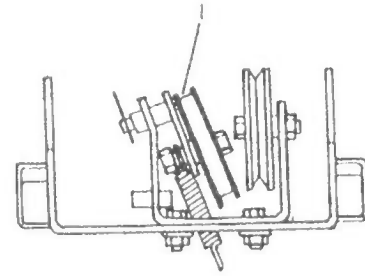

FIGURE 5
- a) Verify if the spring idler pulley (fig. 5, item 1) is placed as shown in figure 5. If it is not placed as shown, remove the hair pin and change the idler kit.
- a) Replace the flat pulley idler kit (fig.5, item 1) with the V-pulley idler kit (fig.8, item 1) and install on the right hand side as shown in fig.8.